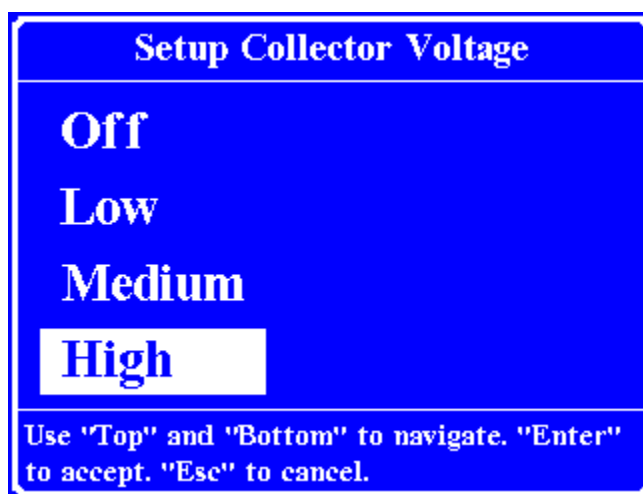

Figure 5-15. Collector Voltage Setup Screen
2. Use the ← key to go to the Collector Voltage item and press Enter to open the Setup Collector Voltage Screen. See figure 5-15.